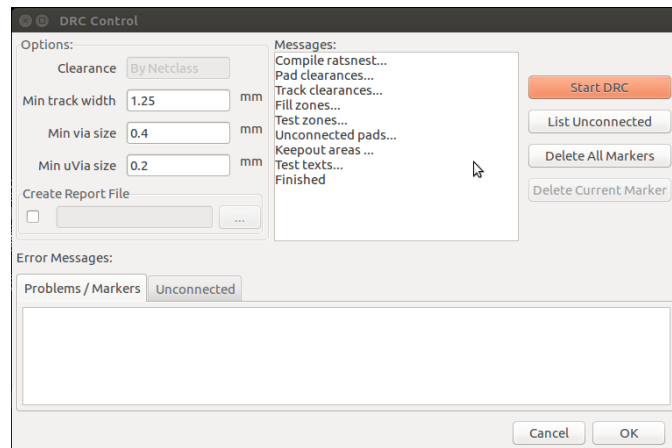

Figure 12.21: DRC Control Window
2. Click on Perform Design Rules check button from the top menu bar of Pcbnew. DRC Control Window will pop-up as shown in Fig. 12.21.
errors in the design present, there will not be any errors in the message window as shown in Fig. 12.21